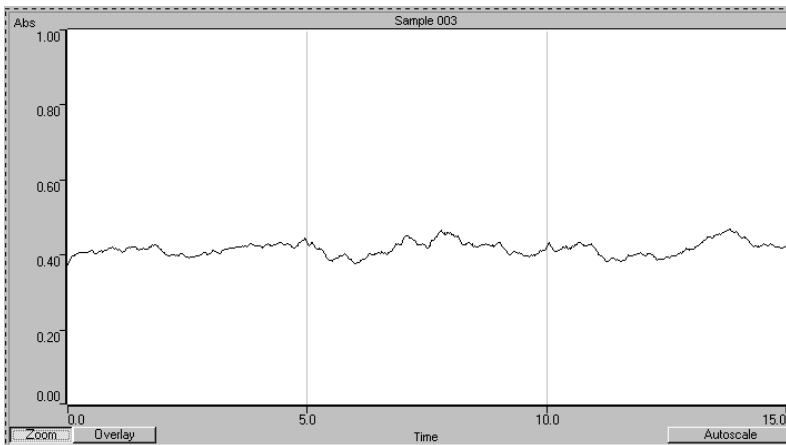

Figure 6 A normal pulsating signal
- Check the signal graphics. A signal that shows some pulsations (as shown in Figure 6, Page 80) is normal at high dilutions. Increase the integration time or switch to PROMT mode with a long read time to improve precision.
- Check the signal graphics. It is normal to see a signal that shows some pulsation at high dilutions, as shown in Figure 6. Increase the integration time. If using the PROMT measurement mode, reduce the **Precision** and increase the **Read time**.